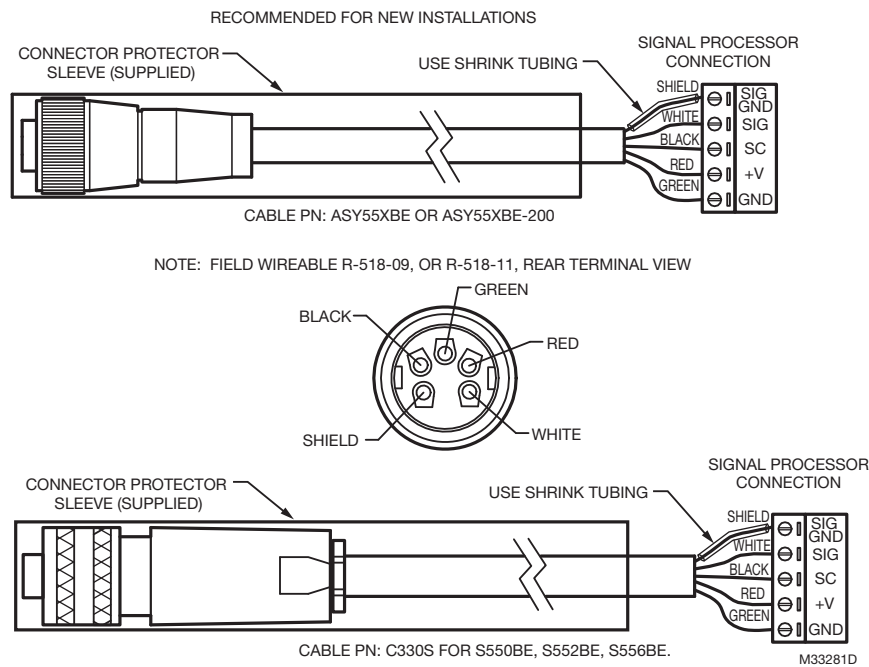

Fig. 2. Cable & Connections for the S550BE, S552BE, and S556BE viewing heads.
See Fig. 2 for S55xBE connections.
Connection of the Honeywell type cable to the field wireable plugs is shown in Fig. 2, and should be done as follows:
9. Proceed to wire the connector as follows: (Refer to Fig. 2 for terminal locations.)
- g. For the S55XBE viewing heads, slide the connector protective sleeve over the connector. The cable at the signal processor end should be prepared in a similar way to the plug end. Follow the wiring connections as shown in Fig. 2.